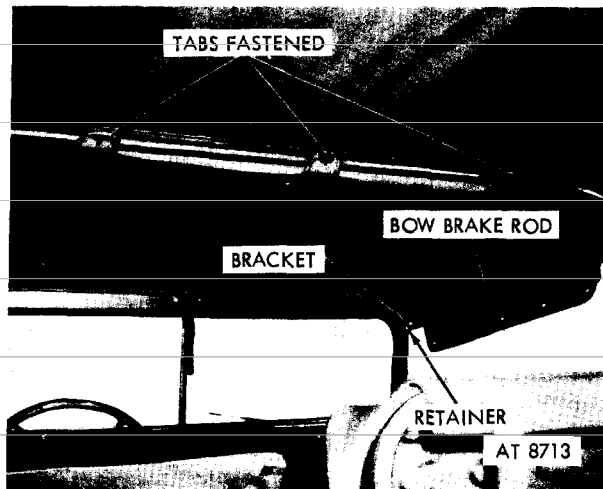

Figure 2-26. Retaining bow brace rod and top tabs fastened.
l. Attach the ends of bow brace rods to windshield brackets and install retainers (fig 2-26). Wrap canvas flap around bow brace rod and secure five button fasteners on each side of vehicle. Wrap three canvas tabs around bow under the center of top and secure button fasteners.